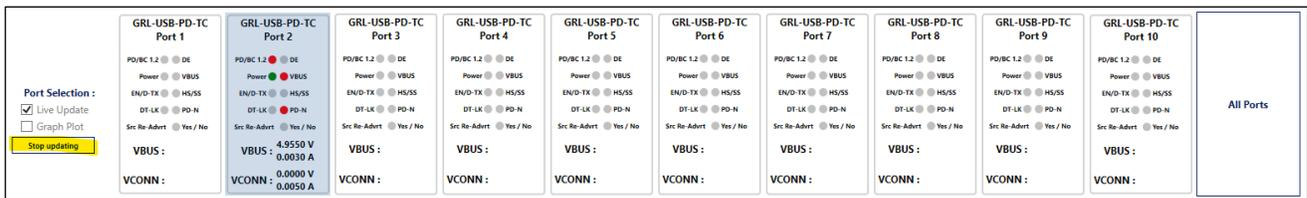

Figure 37. Check PD-N, VBUS & PD/BC1.2 LED's
2. Then, verify that the PD-N, VBUS & PD/BC1.2 LED's are turned ON and glowing red, as shown in Figure 37 below.